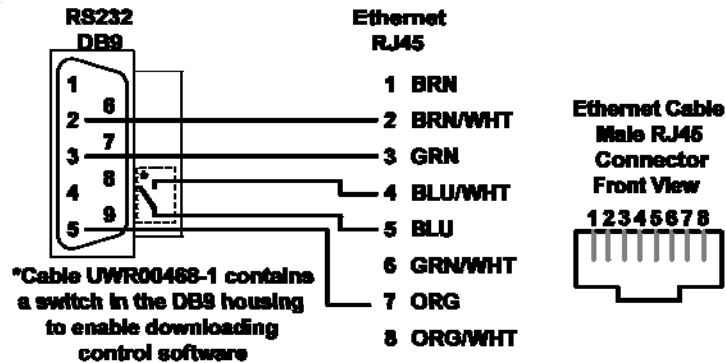

Figure 1.2 – RS232 Network Connection
- 4.2:** Connect the RJ45 port on the front of the E7 drive to the controller serial port. Use a DB9 to RJ45 adapter with a standard Ethernet CAT-5 patch cable or use Yaskawa cables, part numbers UWR00468-1 or UWR00468-2. **Do NOT connect this cable to an Ethernet port** on the controller, as damage to the controller and/or E7 drive may result. Refer to *Figure 1.2 – RS232 Connections*.